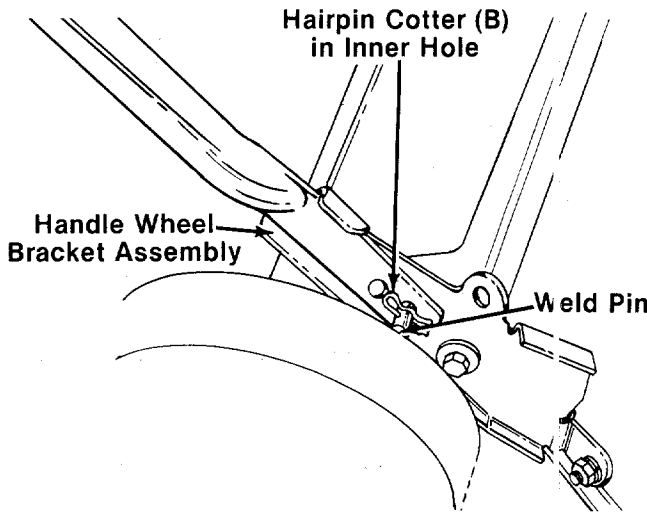

FIGURE 2.
4. Attach the lower handle by placing the bottom holes in the lower handle over the weld pins on the handle wheel bracket assemblies. Make certain the instruction label on the lower handle can be read from the operating position. Secure with hairpin cotters (B) in inner holes on weld pins. See figure 2.